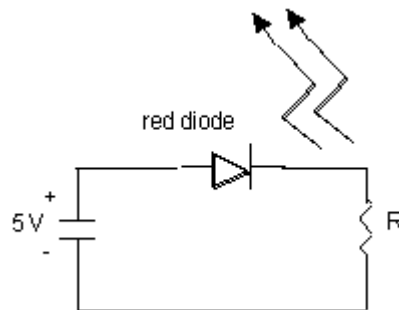

Figure 5. Series resistor-diode circuit with LED.
9. Replace the 1N914 diode from the previous circuit with a light emitting diode (LED), any color, as shown in Figure 5. Note that the LED is a diode, just as the 1N914 is (that is, have the same behavior as far as current flow and forward biasing goes) but the LED also emits light when current flows through it. The LED drops 2 volts and should have about 20 mA of current flowing through it for good light emission. Calculate the resistance required and choose a resistor from the supply box with a resistance close to the value you calculated. Construct the circuit. Try the diode in both directions to determine which lead is the anode. The terminology we use is that the LED will glow only when current enters through the anode and leaves through the cathode and not vice-versa. Which of the diode leads (the longer one or the shorter one) is the anode (+ terminal)? Record this result for later use.